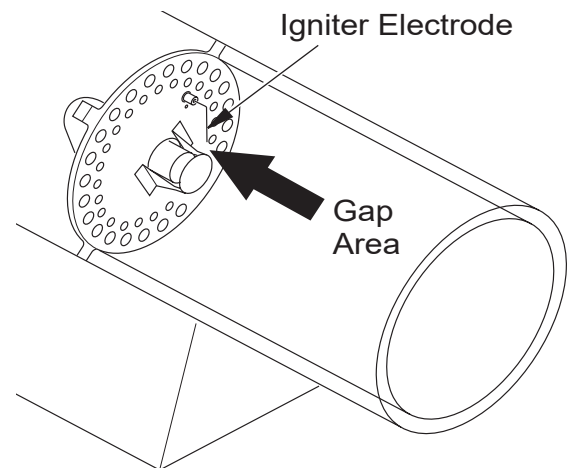

Figure 12 - Clearance Between Igniter Electrode and Target Plate
7. Set gap between igniter electrode and target plate to 0.17" (43.18 cm) (see Figure 12).